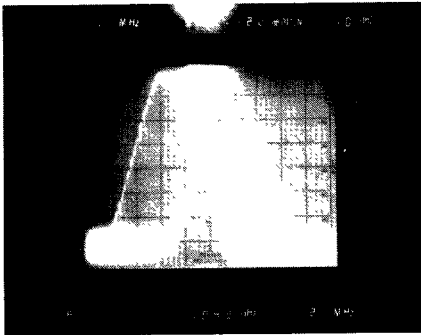

Figure 4-13. Frequency Modulation
- c. On spectrum analyzer, adjust TUNING control to position trace near center screen, as shown in Figure 4-13.